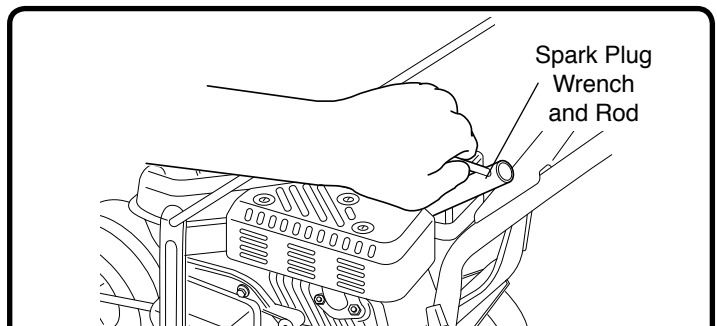

Figure 15
3. Use the spark plug wrench and rod (included with edger) to remove the spark plug. (See Figure 15)
7. Re-insert the spark plug and tighten using the spark plug wrench and rod. (See Figure 15)